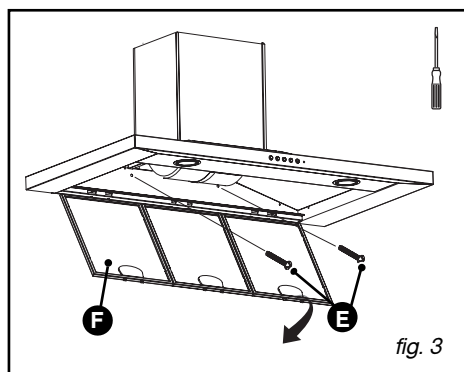

fig. 3
– Remove the filter cartridges (F/fig. 3).
– Screw in the bottom two screws (E/fig. 3).